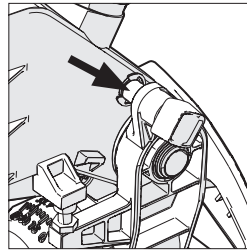

**Fig. 15**
**Note:** There are dual mitre angle scales cast into the RH (Right Hand) side of the rotary table. A small pointer machined into the machines base indicates the angle selected (**Fig. 15**).